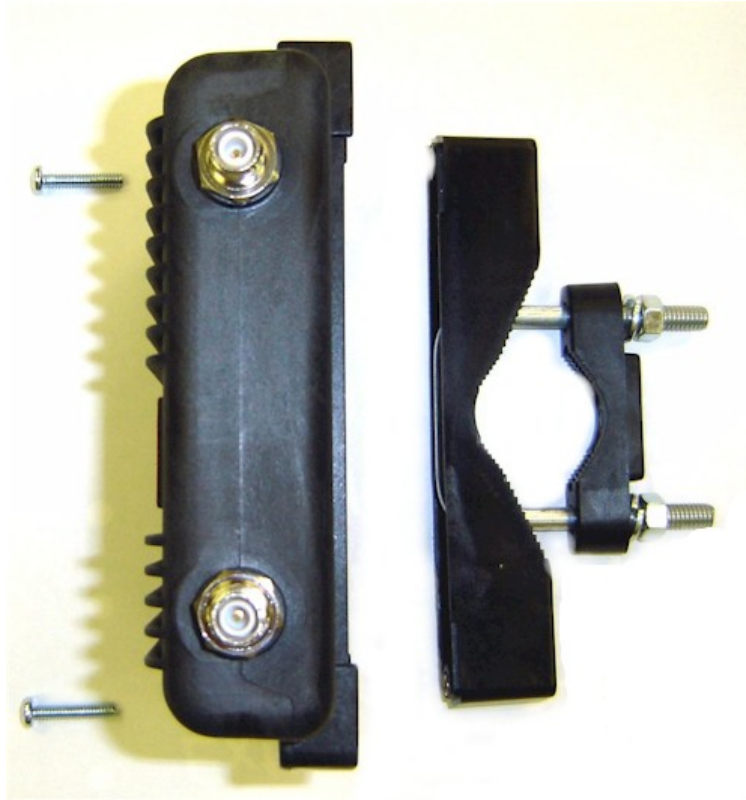

Figure 5: Pole Mount Connection to Case
6. Attach the two Pole Mounting Brackets to the ESTeem Model 195E with the 10-24 x 1" Phillips Pan Head screws through the top of the heat shield. Reference Figure 5 (Heat Shield removed for detail).